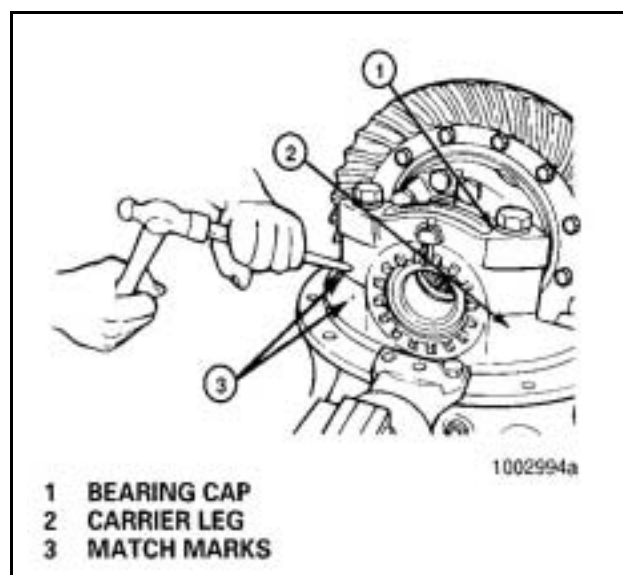

Figure 13
4. Mark one carrier leg and bearing cap to correctly match the parts during carrier assembly. Mark the parts using a center punch and hammer. **Figure 13.**